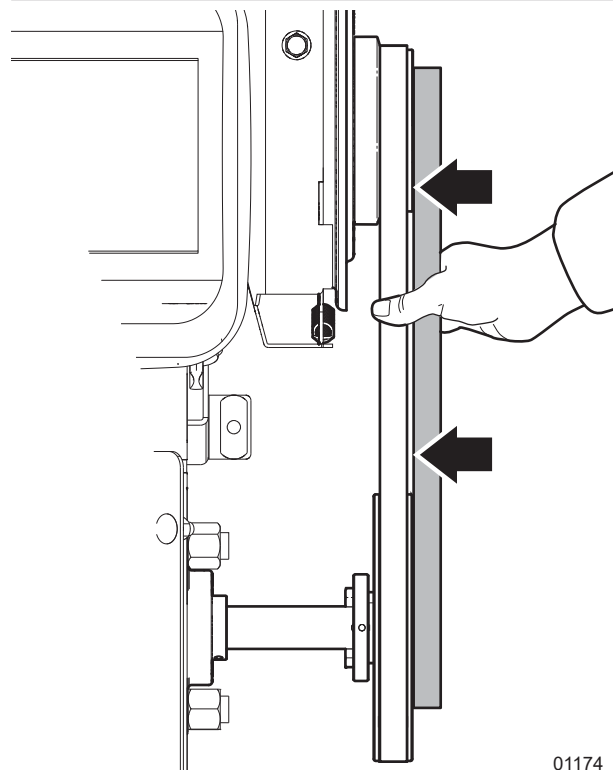

Figure 27—Drive belt alignment
Put a straight-edge tool across the face of the rotor sheave. Point the opposite end of the straight-edge toward the engine clutch flywheel. Make sure that the straight-edge is parallel with the face of the rotor sheave. See *Figure 27*.
- If the edge of the engine clutch flywheel aligns with the straight-edge, the drive belt is aligned. The following steps are not necessary. See *Figure 27*.